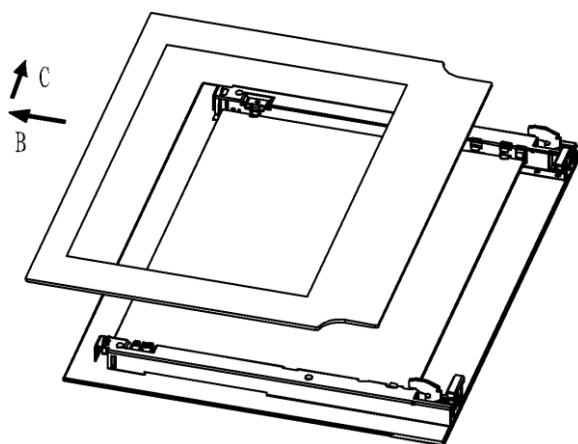

Fig.2
- ☞ Now, shutting the door slightly, you can lift it out by pulling out the hooks “A” as shown in figure 2.
2. Take out inner glass slowly (Fig.2)